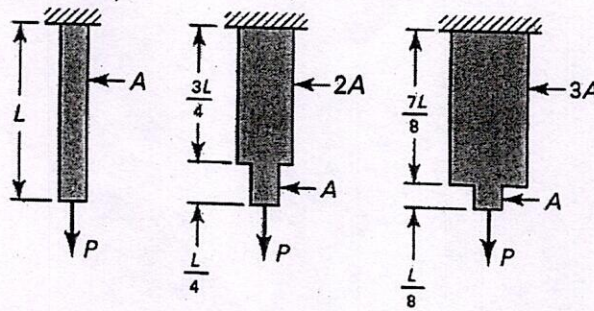

Figure 5
Q.6 Three bars of successively larger volume are to support the same load P (see Figure 5). Note that the first bar has a uniform cross-sectional area A over its entire length L . Neglecting stress concentrations, compare the strain energy stored in the three bars.